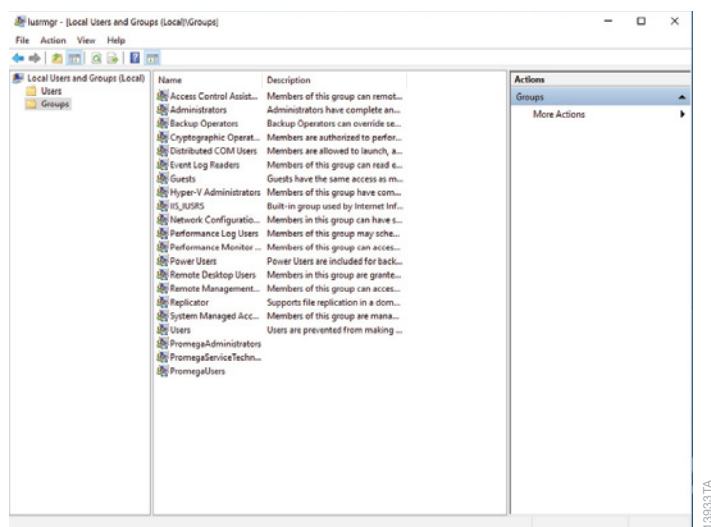

Figure 66. Groups folder. Access the PromegaAdministrators and PromegaUsers groups from the Groups folder on the 'Local Users and Groups (Local)' screen.
4. Double-click the **Groups** folder in the center part of the window to open the folder (Figure 66).